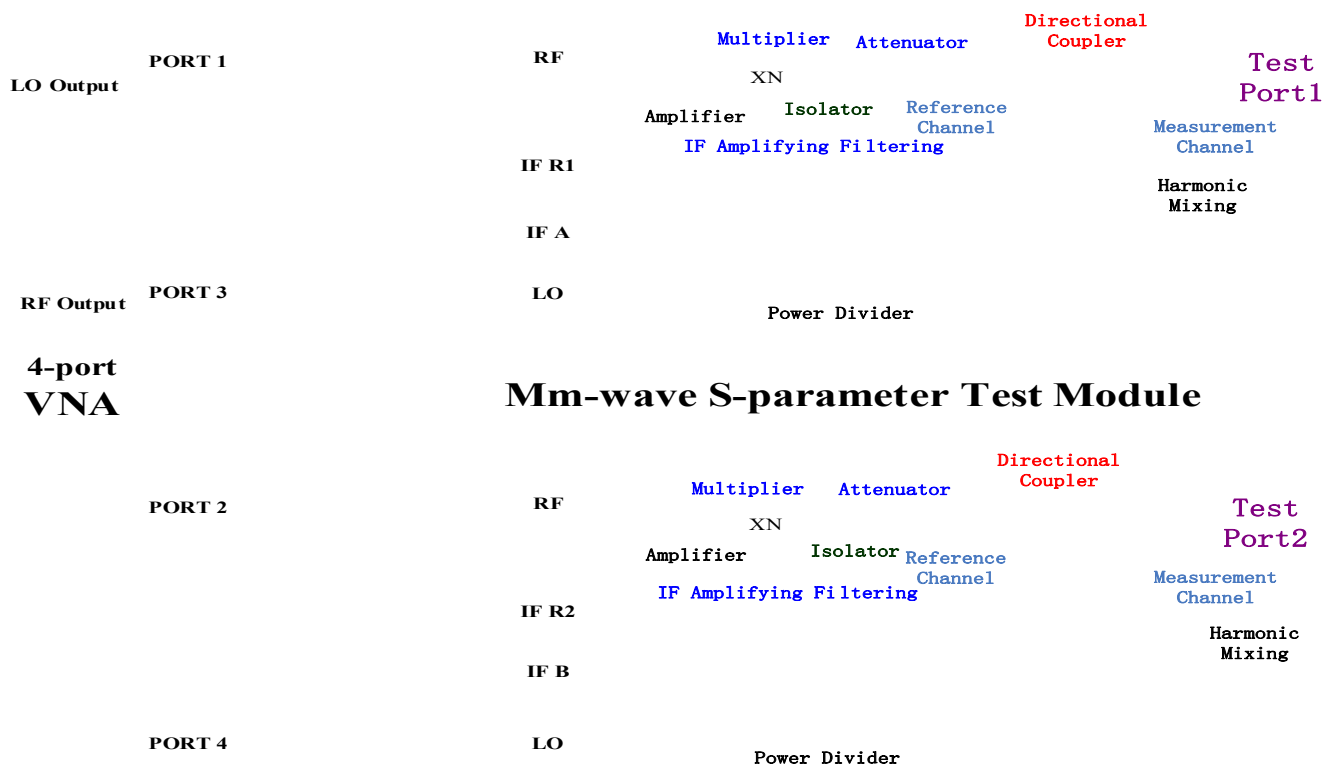

Fig. 1 Mm-wave and THz VNA(4-port) System Schematic Diagram
- A. The schematic diagram of the vector network analysis system is shown in Figure 1.